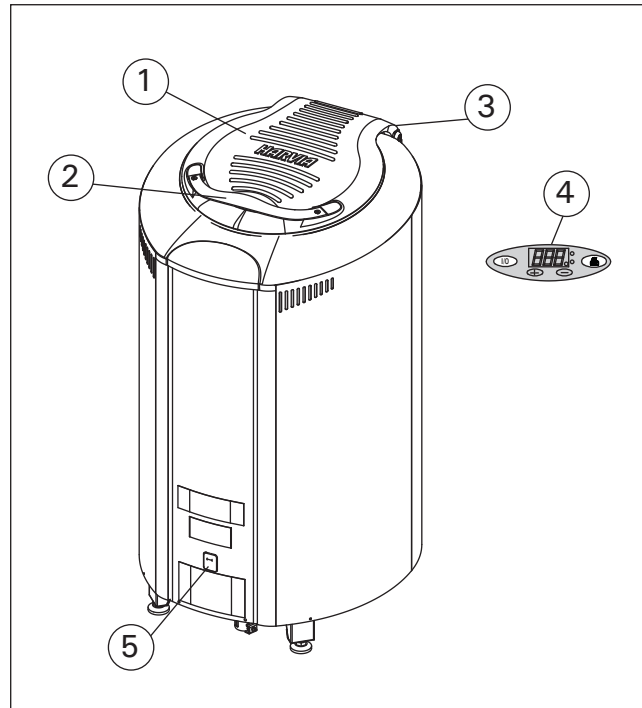
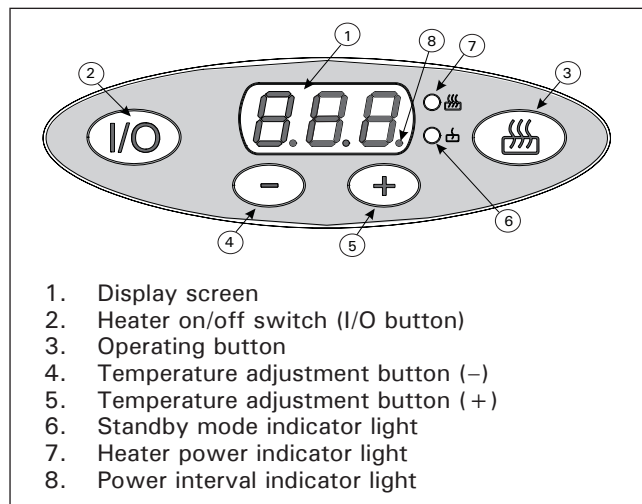

Figure 1. Heater parts
Figure 2. Control panel
2. Handle to safely open and close the cover (fig. 1).
The I/O button is used to switch the heater heating elements on and off. For this to happen, the electric switch must be switched on (see figure 1). The indicator light burns under the I/O button to indicate standby mode.
When the operating button is used to set full heater capacity (HI), the heater temperature is set to 500 °F (260 °C). This temperature cannot be set using the temperature adjustment buttons 4 and 5 (fig. 2). If the heater cover is closed while the heater operates at full capacity, the pre-set temperature of the stone space 500 °F (260 °C) can be achieved more quickly.
The electronics of the heater are switched on and off using the small electric switch with a swing mechanism I in front of the heater (fig. 1). When
To switch the heater on, press the I/O button. To indicate that current has been connected to the heating elements, the display shows the message LO (standby power). In addition, indicator light 6 (fig. 2) is lit up. The temperature of the stone space can be set to a maximum of 500 degrees Fahrenheit (260 degrees Celsius) by pressing the + button 5 (fig. 2). The minus button 4 (fig. 2) is used to lower the temperature if it has been set too high.
The electric power consumption of the heater can be monitored using indicator lamp 8 (fig. 2). See the section “Display screen.”
To switch on to full capacity, press the operating button 3 (fig. 2) once. The display screen 1 (fig. 2) indicates that the HI state (= full heater capacity) is in use. In the HI state, the stone space temperature increases towards the set value of 500 °F (260 °C). Full capacity is switched on for only one hour at a time, after which the heater automatically switches to the LO state with indicator light 6 burning (fig 2). After initial heating, the heater cover must be closed. If the stone chamber seems to emit odours, the cover can be left open for a while as the heater operates at full capacity (HI).
When the heater cover 1 (fig. 1) is opened, the air flowing through the hot stones and the heating elements begins to heat up the room. To ensure that the thermal energy stored in standby mode remains in the heater stones despite the cooling effect of air currents and the water thrown on the stones, the heater power should be switched on during bathing using the operating button 3 (fig. 2). “HI” will be
displayed on the screen for a while as an indication of the higher power and the indicator lamp 7 glows (fig. 2).